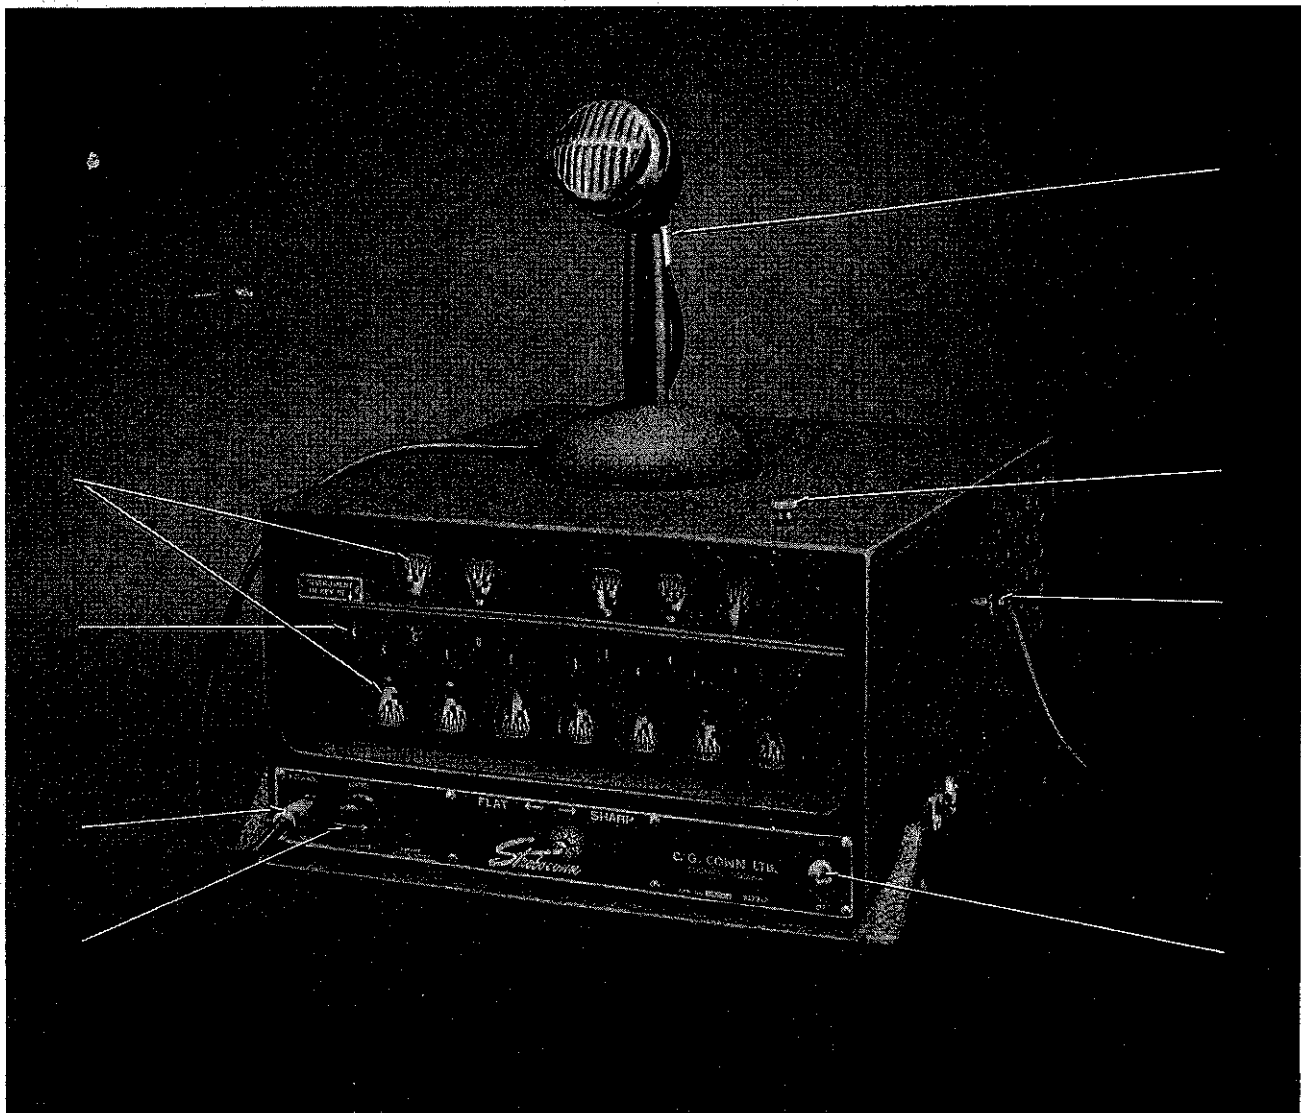

Figure 1—The Complete Stoboconn Junior, Model 8T.
1. The complete Stoboconn Junior is made up of one encased Scanning Unit, one desk-type microphone with shielded cable, and a suitable a-c power cord. (See Figure 1.)
a. As may be seen from the illustration in Figure 1, the Scanning Unit of the Strobococonn Junior has in its front side twelve windows occupying positions corresponding to the white and black keys of the piano in an octave from C to B. The twelve notes of the chromatic octave are thus represented. Sound picked up by the microphone causes whirling stroboscopic disks in these windows to become illuminated by a neon tube whose rate of flashing corresponds exactly to the frequency of the tone sounded.
however, to correspond to the key of the instrument whose tones are being tested. This is accomplished by use of the transposing knob on top the Scanning Unit. At the extreme left of the twelve window labels is a small opening wherein the key signature is displayed. (See 7, figure 1.) By lifting the transposition knob to different positions the Strobococonn Junior windows can be labeled to read correctly in the keys
2. Attach microphone and power cables as shown in Figure 1.